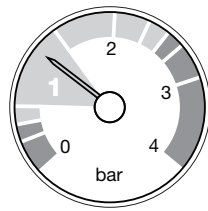

Fig. 1
2. With the system cold and the boiler not operating the pressure should be at least 0.5 bar. During operation the pressure should not exceed 2.5 bar, and will normally be between 1.0 and 2.0 (Fig. 1).